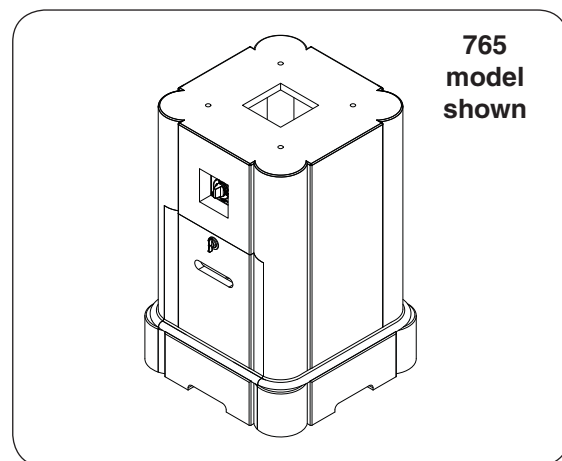

Fig. 15-2 Pedestal base placement
**CAREFULLY** place the base in an appropriate location (see Fig. 15-2, and refer back to the LOCATION section if needed).